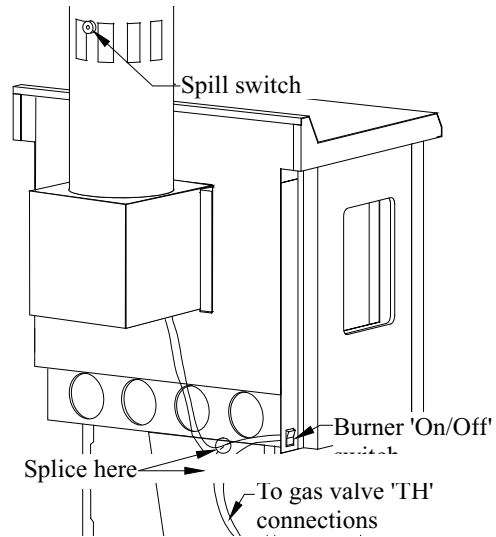

Figure 23. Wiring the draft hood spill switch into the millivolt circuit.
- Gently pull the spill switch wires from the bottom of the draft hood, and splice them into the On/Off switch circuit. The switch should be wired in series as shown in Figure 23.